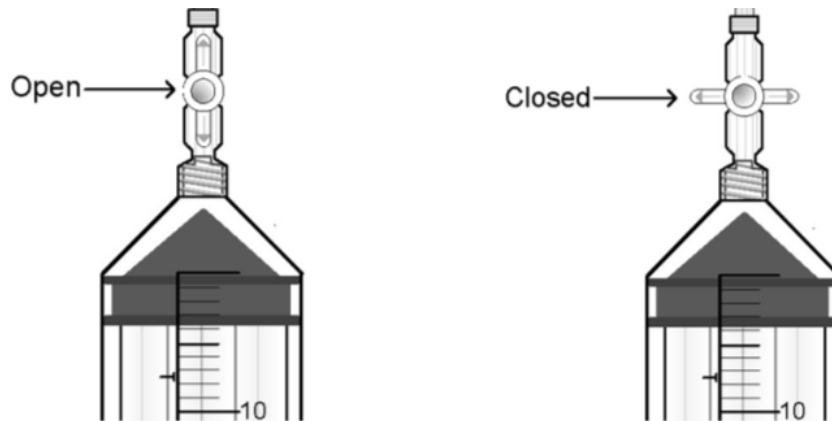
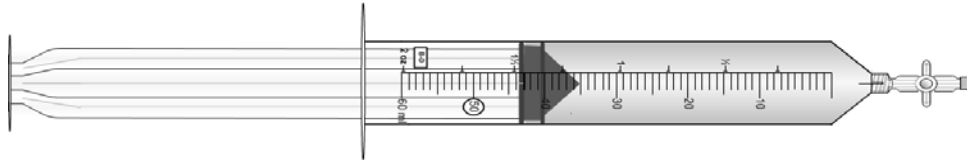
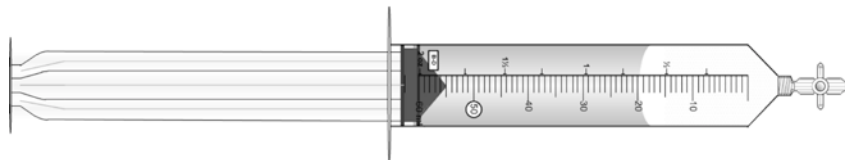

Figure 7. Example of a syringe and stopcock in the "open" and "closed" positions
Figure 8. A syringe with a 40 mL water sample
Figure 9. A syringe with 40 mL of water and 20 mL of air
- q) RINSE: Place the syringe tip (with 1-way stopper attached and turned to open; Figure 7) into the stream so that you are sampling the water ~10 cm under the surface of the water. Pull in ~20 mL water and remove syringe from stream. Rinse the syringe by pulling the stopper all the way back (without removing it) and shake. Expel the rinse water downstream or onto the bank. Repeat.
- r) **SAMPLE:** Put the syringe tip back into the water, below the surface, and pull the plunger until the syringe is completely full. Remove the syringe and tap the sides of the syringe firmly with your hand/fingers to remove the air bubbles. EXPEL water, leaving approximately 1 mL in the syringe, which will help reduce air intake on the next sampling. Put the syringe back in the water, expel the final 1 mL of aerated water below the stream surface, and slowly fill to the 40 mL mark, being careful not to entrain any air bubbles (Figure 8). Immediately turn the 1-way stopper to the closed position before removing the syringe from the stream (Figure 7). Take 5 separate syringe samples all within the main flow of water. Place the syringe in a small cooler to help maintain stream temperature at time of collection.
- a) Away from stream, where there will be no contamination in the air from the injection, such as upstream and upwind, open stopcock and draw in 20 mL of air so the syringe is filled to the 60 mL mark with air and water (Figure 8). Close stopcock. VERY IMPORTANT: To be consistent, be sure to have the bottom of the meniscus at the 20 mL mark (Figure 9).
- d) After shaking, place needle with needle cover still attached on 1-way stopcock. Once needle is attached, remove the plastic covering. Holding the syringe upright, open the stopcock (Figure 9) and push a small amount of air (~0.5 mLs) through the needle to purge the air in needle.